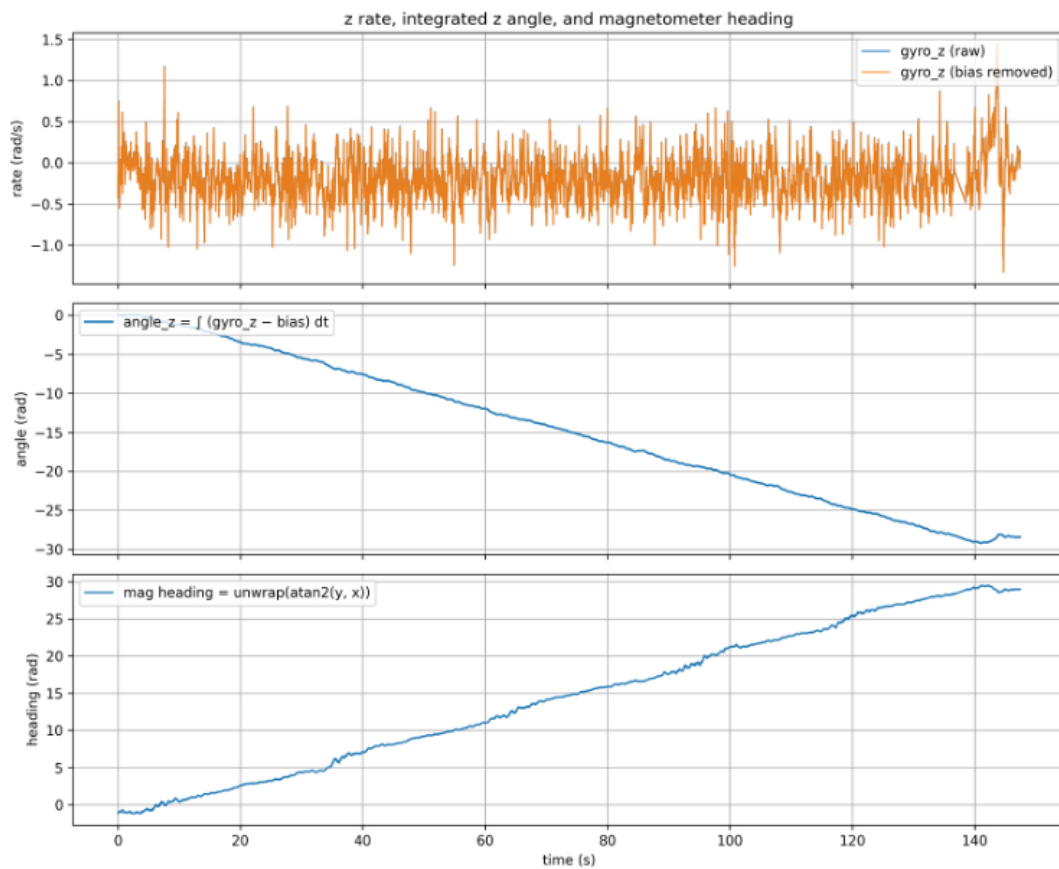

Figure 4: Gyroscope Z-axis rotation and magnetometer heading
**Task:** Plot rotational rate around Z, rotation from the gyro around Z (integrate once), and magnetometer heading (calculate  $\text{atan2}(X/Y)$ ) on three subplots (Fig. 4).